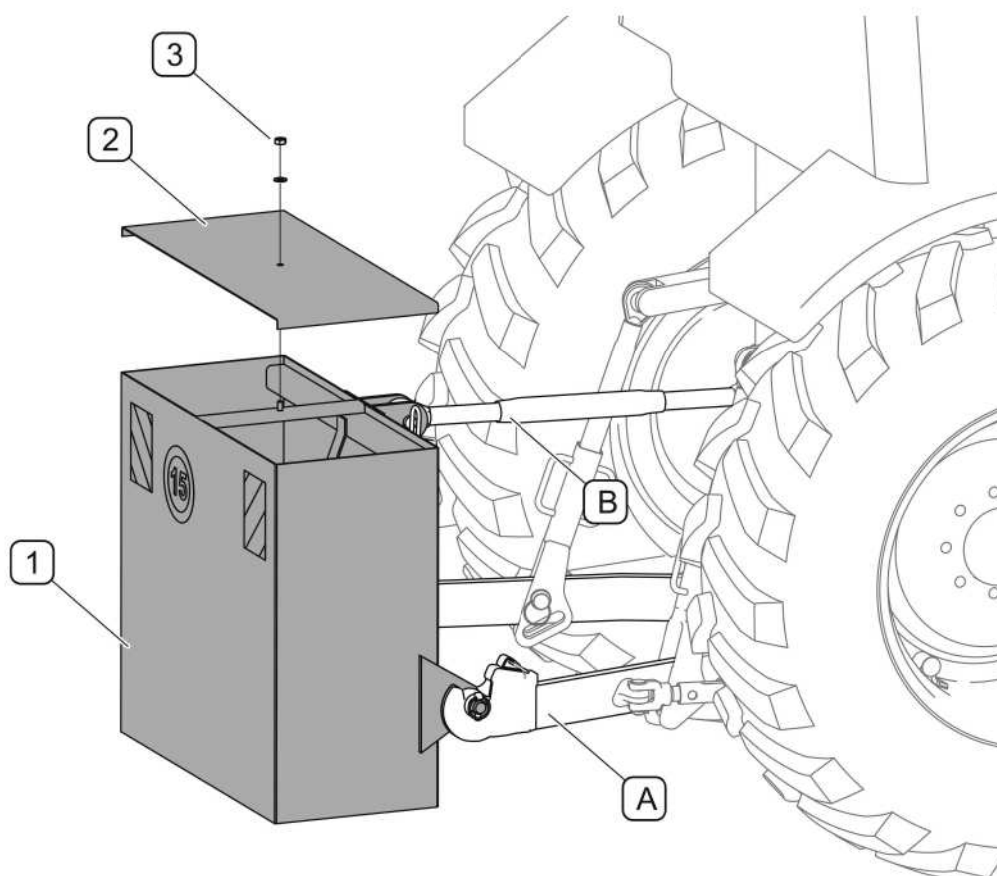

FIG. 4.24A Counterweight
Connect the lower counterweight mounting bolts (FIG. 4.24A) to the lower linkage (A) of the tractor and connect the upper attachment point to using the central link (B). Counterweight must also be filled up to a total weight of about 400 kg. To fill the counterweight weights, coarse gravel, sand or concrete can be used. To fill the counterweight, remove the cover (2) secured with a nut (3)